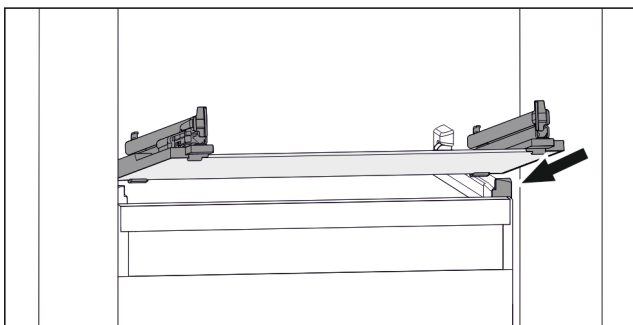

Fig. 46 Example illustration of glass shelf
- ▶ Position glass shelf at an angle behind the stoppers. (see Fig. 46)